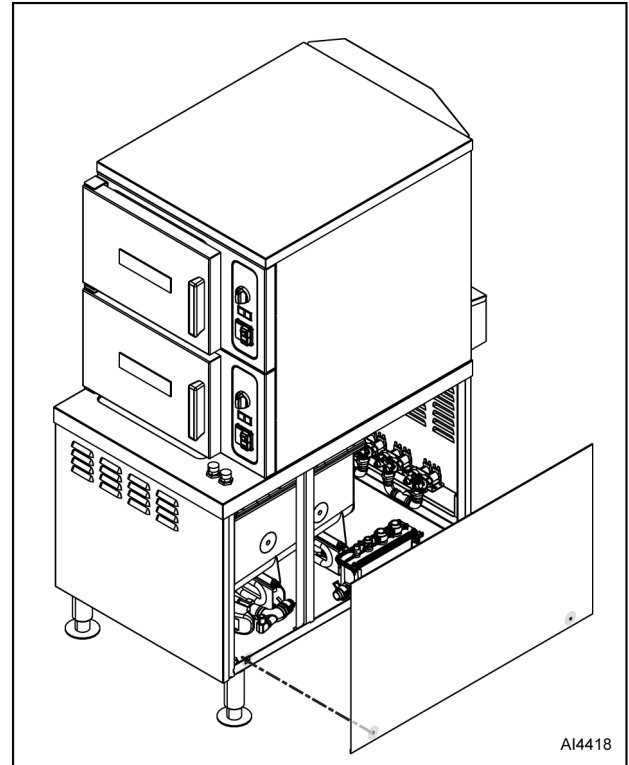

Fig. 2
1. Remove two screws from locations noted in Fig. 2.